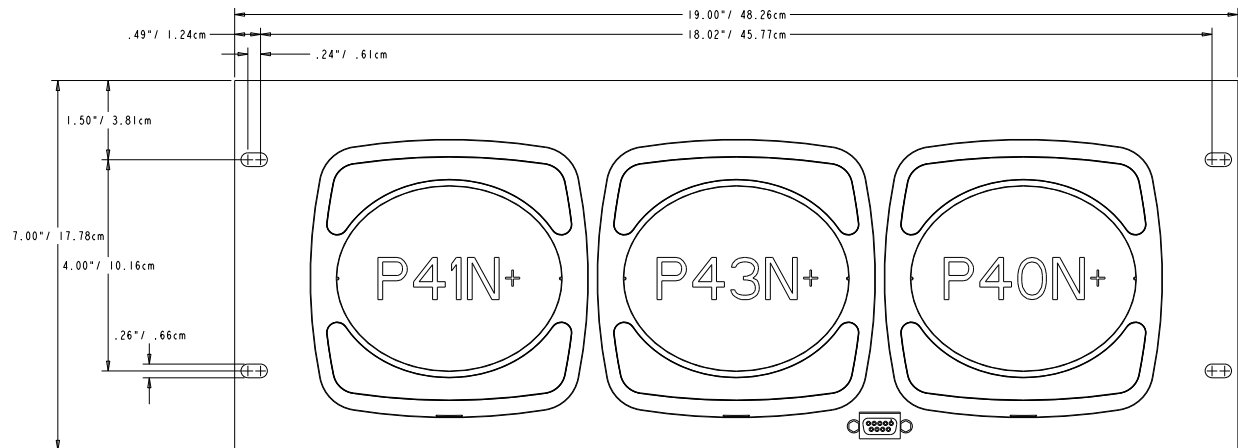

Figure 12.2: Rack Assembly Dimensions
1. Align the rack assembly's screw holes with the holes in the panel (see Figure 12.2.)